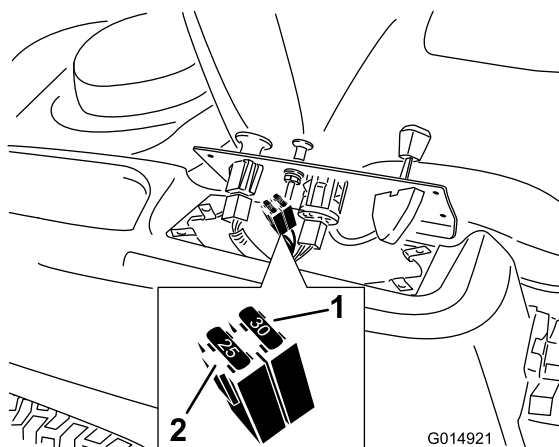

Figure 40
2. Lift the control pane up to access the main wiring harness and fuse block (Figure 40).
3. To replace a fuse, pull out on the fuse to remove it (Figure 40).